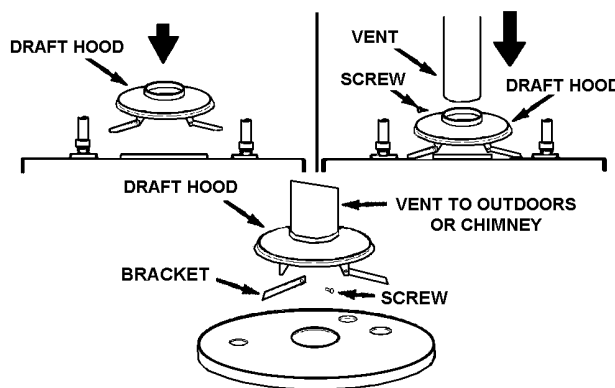

FIGURE 11.
- Place the vent pipe over the draft hood. With the vent pipe in position, drill a small hole through both the vent pipe and draft hood. Secure them together with a sheet metal screw, see Figure 11.